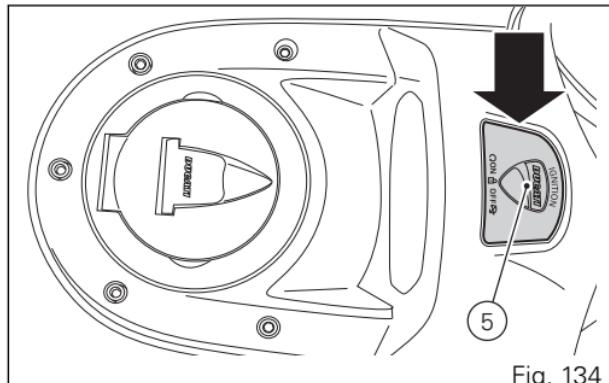
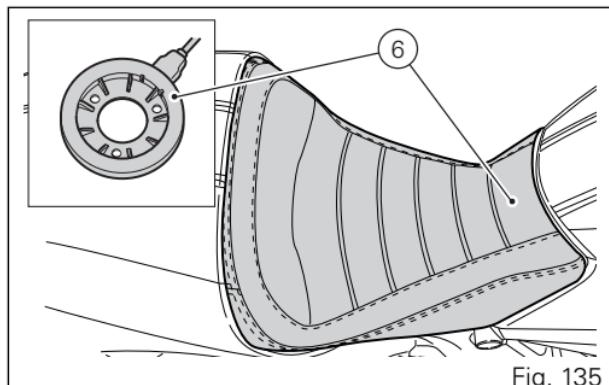

Fig. 134
Fig. 135
(Fig. 134) indicates the position of the Hands Free block (5) and (Fig. 135) indicates the position of the antenna (6).